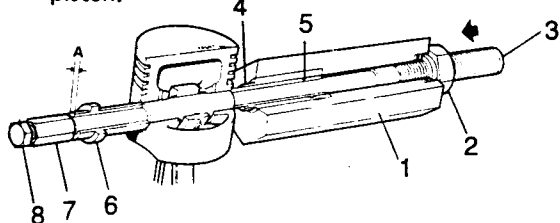

Fig B5.1
- (2) Refer to Fig B5.1. Retain the hexagon body (1) of special tool 18G1150 in a vice.
- (3) Screw the large nut (2) forward until the nut contacts the thrust race.
- (4) Push the screw (3) forward until the nut contacts the thrust race.
- (5) Locate the piston adaptor (4) of 18G1150D in the bore of the body with its spigot facing outwards.
- (6) Smear the outside diameter of the parallel sleeve (5) with oil and fit the sleeve onto the centre screw, groove end first.
- (7) Fit the piston, with the mark "FRONT" or  $\Delta$  etched on the piston crown towards the adaptor, and onto the centre screw of 18G1150.